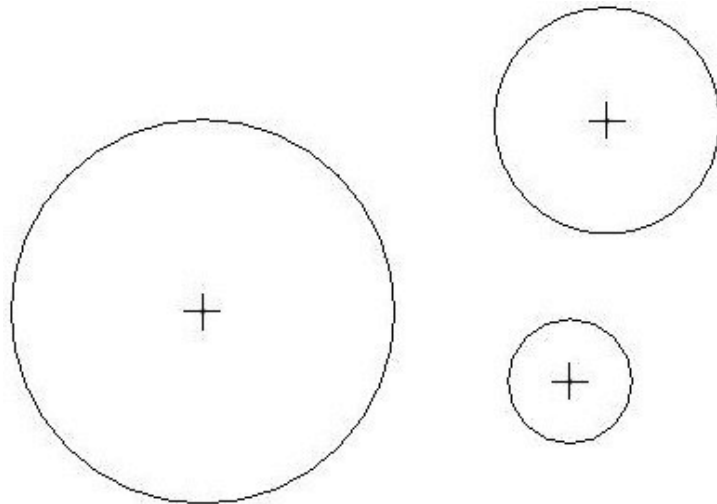

Figure 3-26 Three Circles
Step 12: Use  to draw three circles somewhere on the screen as shown in Figure 3-26. Do not let the circles intersect. Do not make the circle the same diameter.